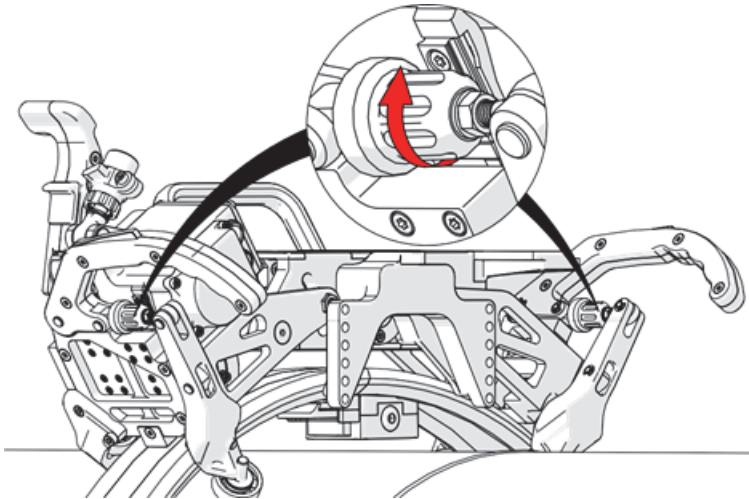

Figure 1-36 Tightening the clamp adjusters
6. Tighten the clamp adjusters until all of the motor carriage wheels are contacting the band (see Figure 1-36 on page 52).